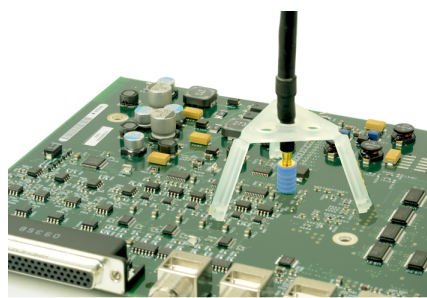

Figure 8: Connecting to an adapter on the circuit board with the probe tip tripod
5. Connect the sensor tip cable end to the DUT. If you are using MMCX sensor tip cable, connect it to an MMCX connector on the DUT or to a square pin adapter on the DUT. The adapters connect to square pins with either 0.100-inch (2.54 mm) spacing or 0.062-inch (1.57 mm) spacing. Figure 8 on page 30
When the adapters are firmly in place on the circuit board connect the probe tip to the top of the adapter while using the probe tip tripod to ease the tension off the probe tip cable and adapter. Figure 8 on page 30